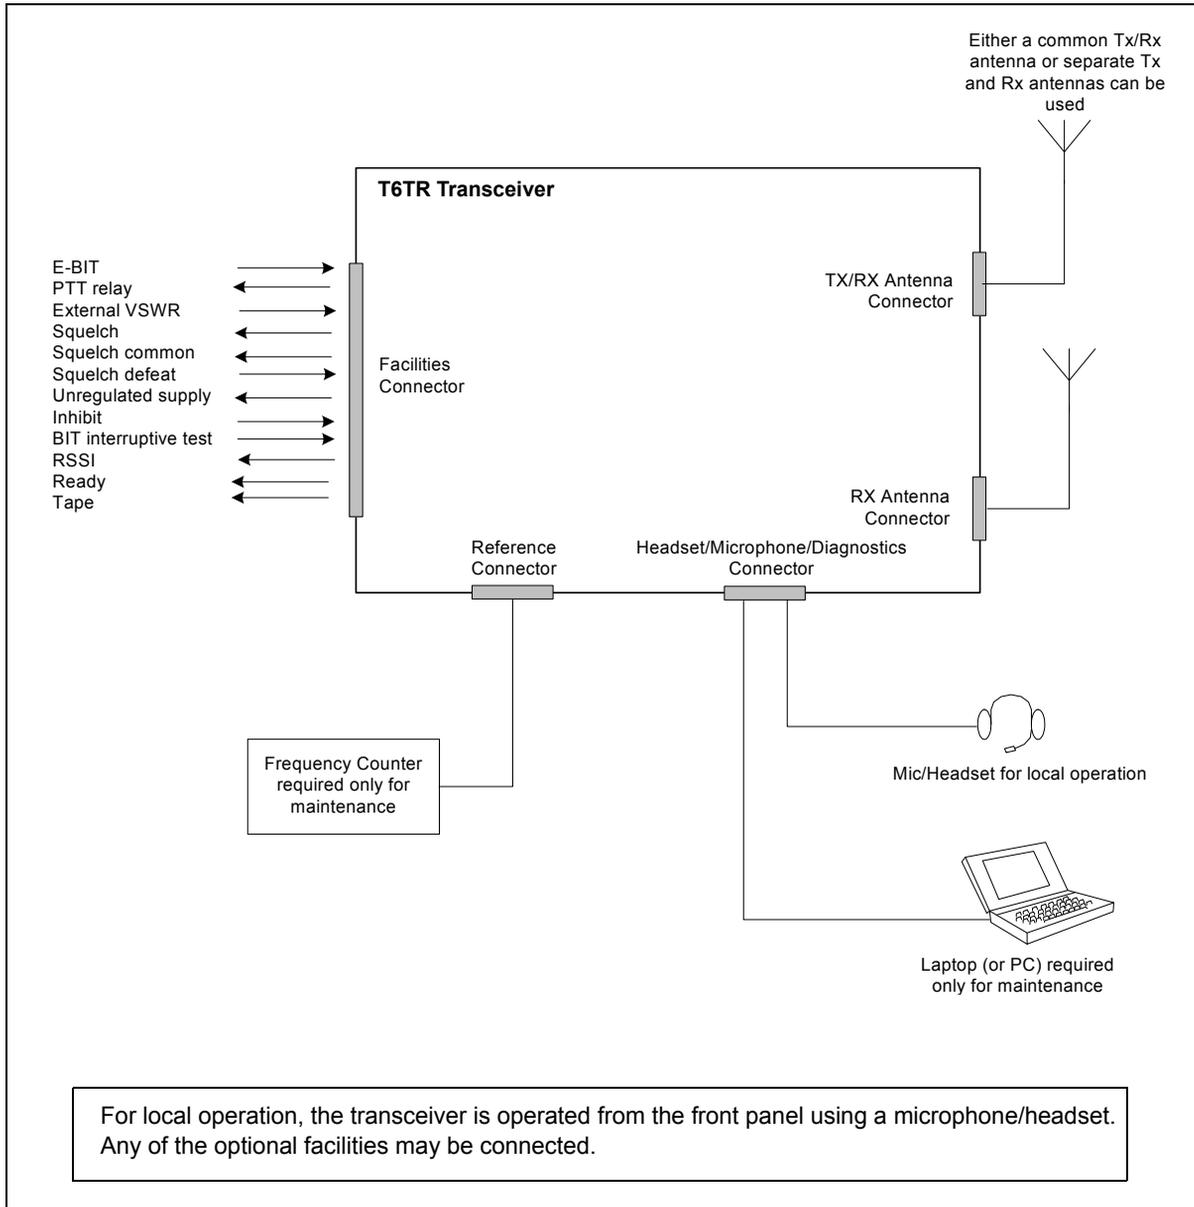
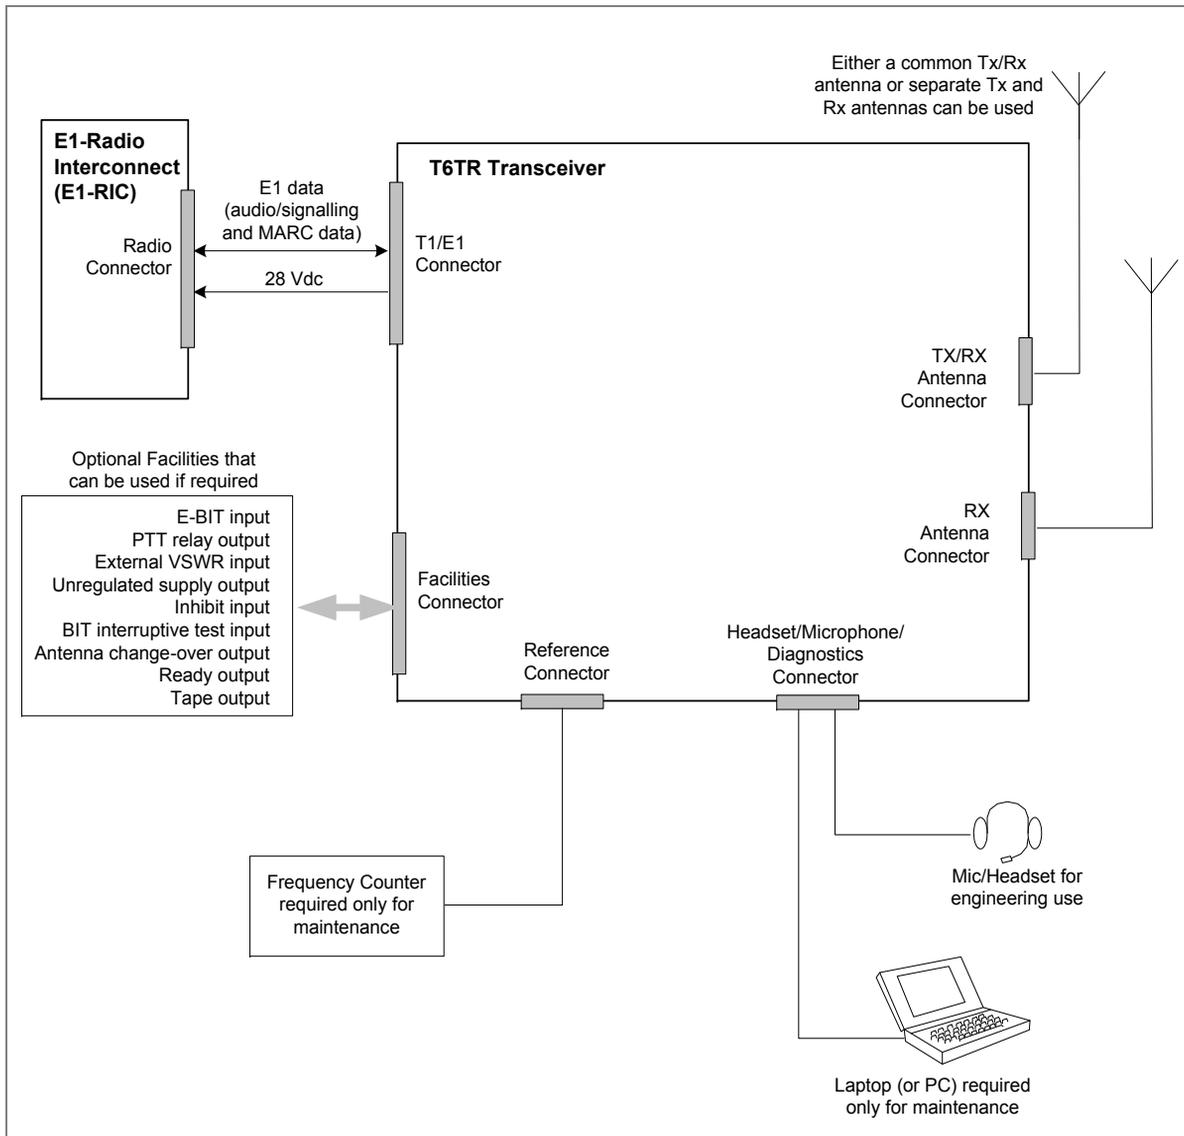

Fig 4-1 T6TR Transceiver Configured for Local Operation
Fig 4-5 T6TR Transceiver Configured for use with an E1-RIC
- T6TR transceiver configured for local operation (see Fig 4-1)
- T6TR transceiver configured for use with an E1-RIC (see Fig 4-5)
Making the external signal connections involves configuring the transceiver to suit its operational mode. Illustrations showing various configurations are shown in Fig 4-1 to Fig 4-5; these figures should be used only as a guide.